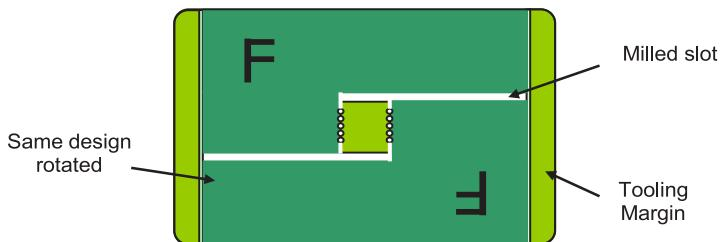

Figure 37: L type PCB layout on a single panel.
- Note: For some irregular shapes (such as an 'L' shaped board), applying the appropriate panelization mode can drastically improve the utilization ratio of a panel and reduce costs, as shown in figure 37.